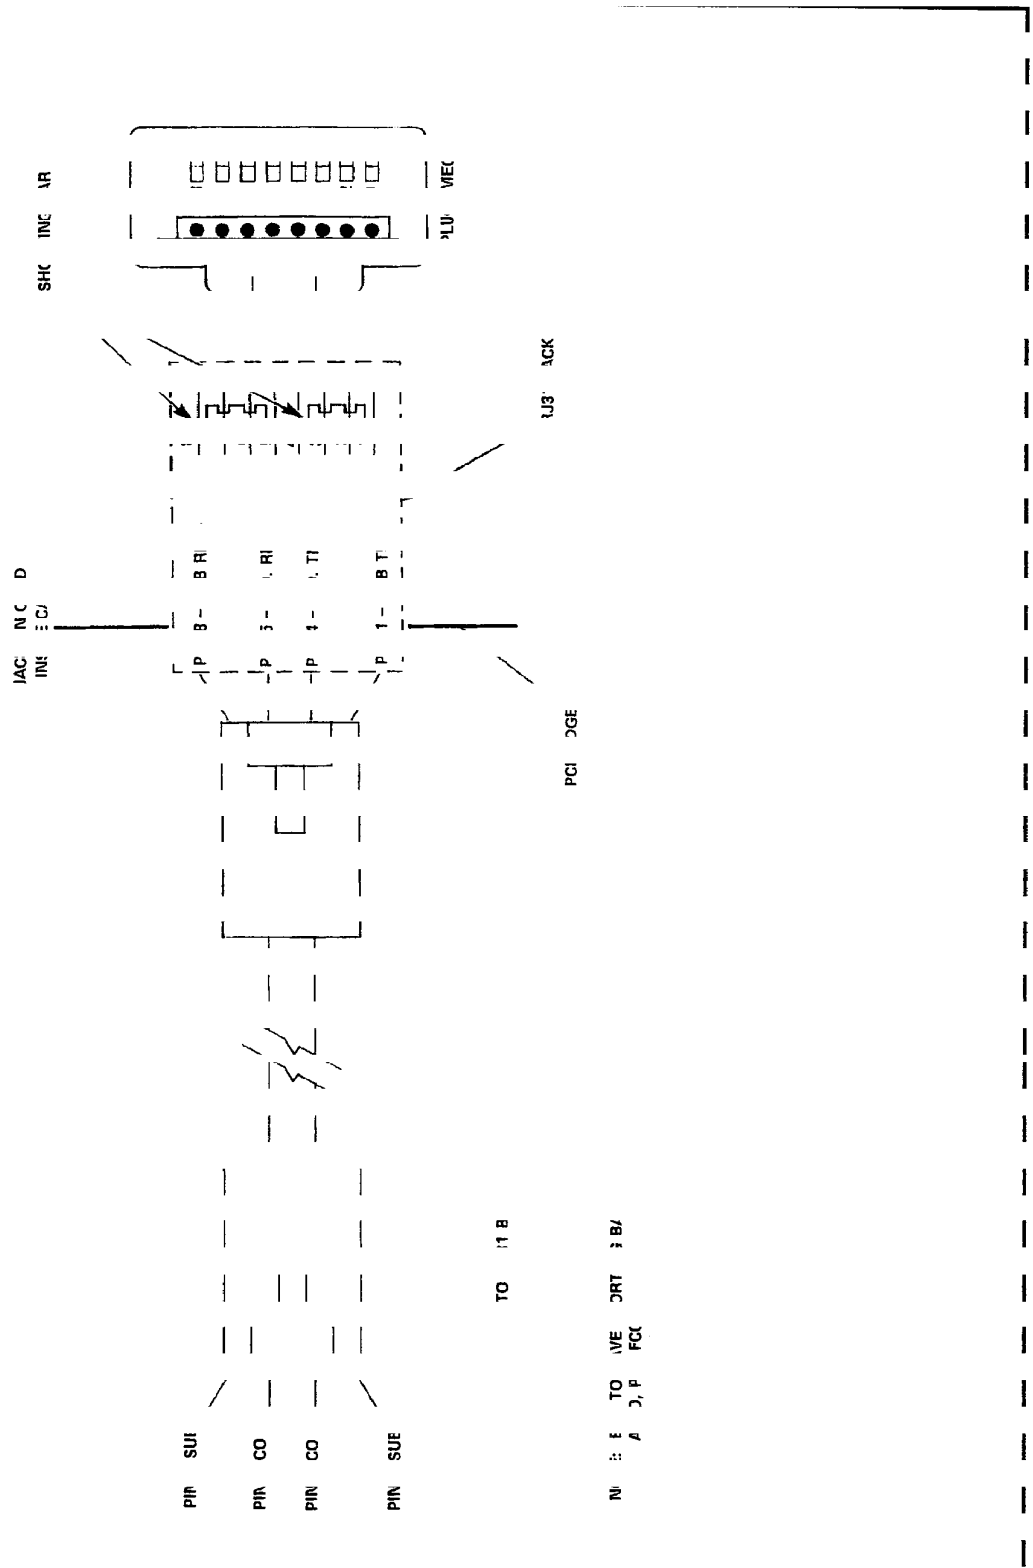

FIGURE 4: USOCRJ31X JACK AND CABLE ASSY.
**4.03** Each trunk of the Dialer is connected in series with the Tip and Ring leads of a standard loop start or ground start, DTMF or rotary telephone line (refer to Figure 4 on Page 9). This line can be connected between: